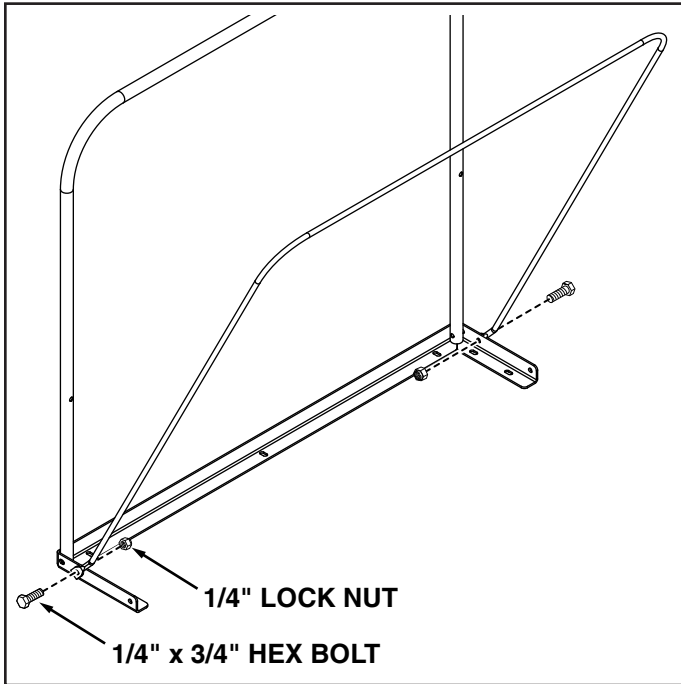

FIGURE 24
8. Attach the lower support rod closest to front support tube to the outside of the top angle support using two 1/4" x 3/4" hex bolts and 1/4" lock nuts. **DO NOT TIGHTEN YET.** See figure 24.